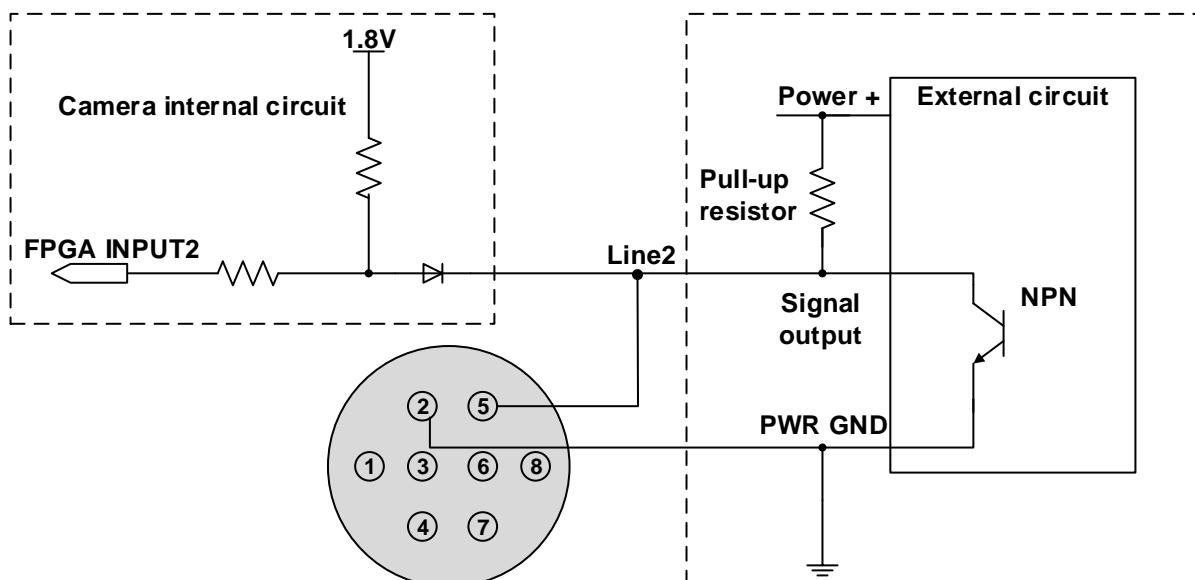
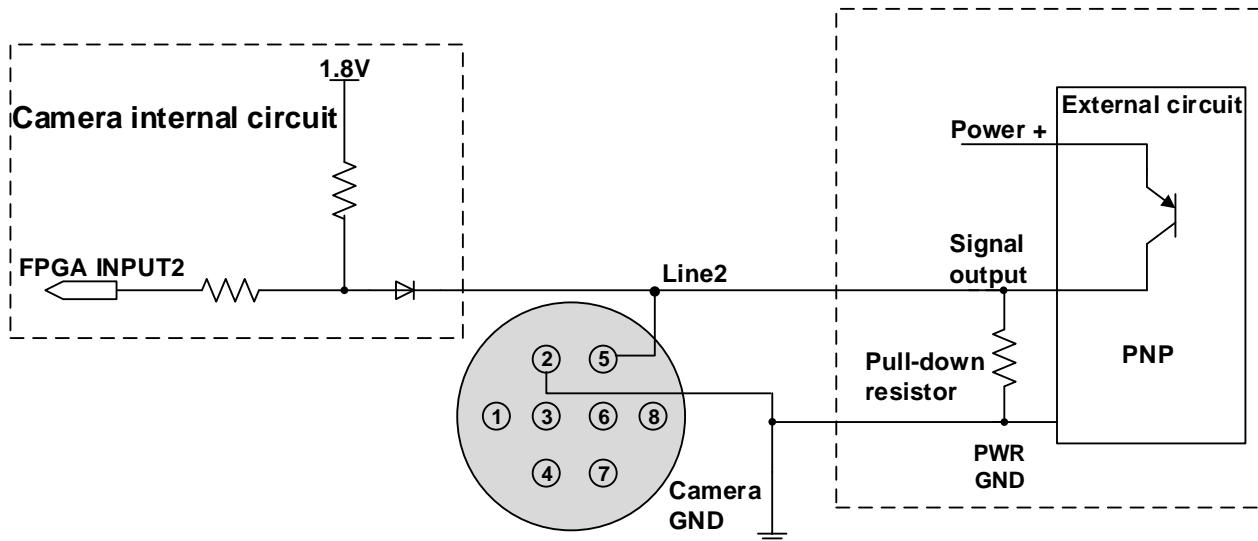

Figure 7-18 NPN photoelectric sensor connected to Line2 input circuit
Figure 7-19 PNP photoelectric sensor connected to Line2 input circuit
- When input of Line2 is high, input current is lower than 100uA. When input of Line2 is low, input current is lower than -1mA. When Line2 is configured as input. The connection method between them and NPN and PNP photoelectric sensors is shown in Figure 7-18 and Figure 7-19. The relationship between the pull-up resistor value and the external input voltage is shown in Table 7-3